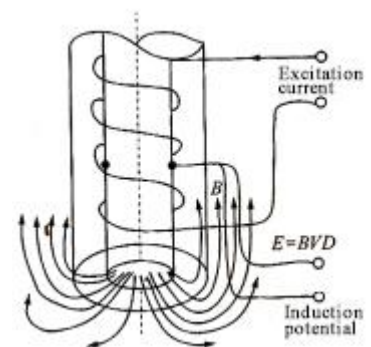

Figure 2 Schematic diagram
The working principle of the insertion electromagnetic flowmeter is the same as that of the pipeline electromagnetic flowmeter, which is also based on Faraday's law of electromagnetic induction, as shown in Figure 2. When the conductive liquid passes through two electrodes with a distance L at an average flow velocity V and perpendicular to the direction of the magnetic field of force B , a corresponding induced electromotive force (E) is generated between the electrodes, and the formula is: $E=B \times L \times V$
The electromagnetic flowmeter converter provides stable excitation current to the electromagnetic flow sensor excitation coil, and the preamplifier amplifies and converts the electromotive force induced by the sensor into a standard current signal or frequency signal, which is convenient for flow display, control and adjustment. Figure 2 below shows the converter circuit structure.